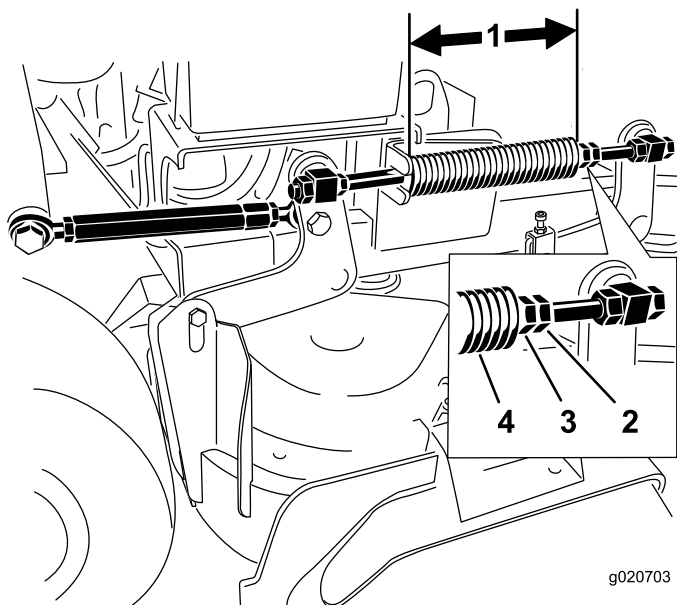

Figure 87
2. Check the length of the compression spring. Nominal length is 28.2 cm (11-1/8 inches) for 36 inch mower decks and 25.7 cm (10-1/8 inches) for 40 inch mower decks (Figure 87).
3. Adjust this distance, by loosening the spring jam nut and turning the nut in front of each spring (Figure 87).
4. Lock the nut into position by tightening the spring jam nut (Figure 87).